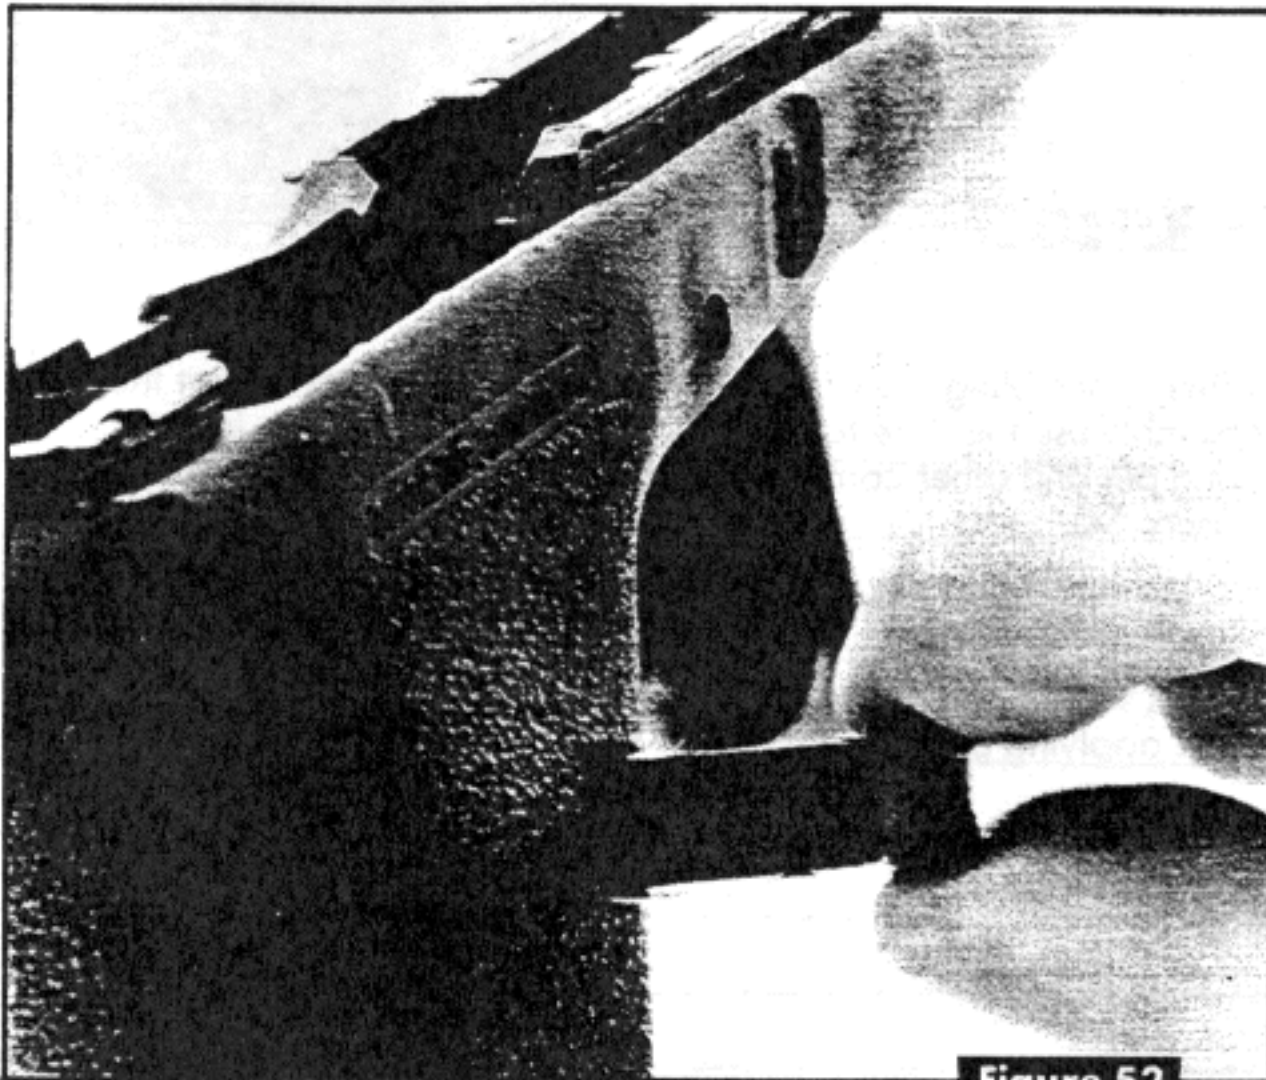

Figure 52
- REMOVE the magazine catch from the right side of the receiver (Figure 52).